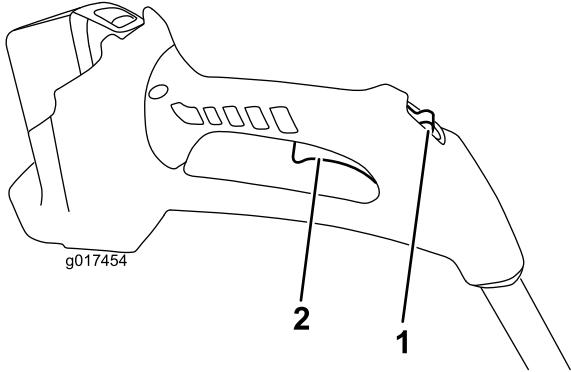

Figure 8
4. To start the trimmer, slide the lock switch back to the On position, then squeeze the trigger (Figure 8).